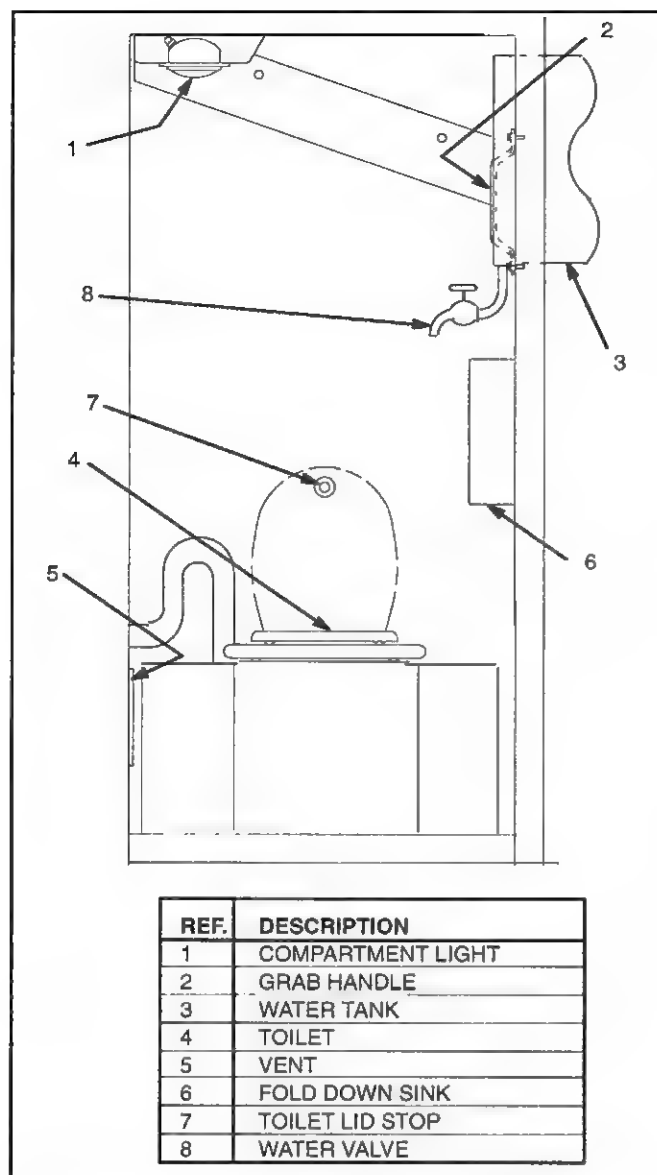

FIG. 9. TYPICAL TOILET COMPARTMENT.
Refer to Figure 9 for more information on the Toilet Compartment (3).
Toilet Compartment (Fig. 9)